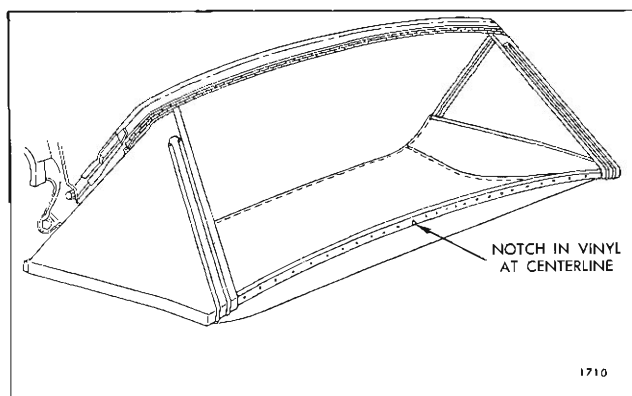

Fig. 2-I-12—Back Curtain Installation
8. Tack curtain to rear and rear quarter trim sticks. On right side, tack zipper tape to forward edge of rear quarter trim stick. (Fig. 2I13).